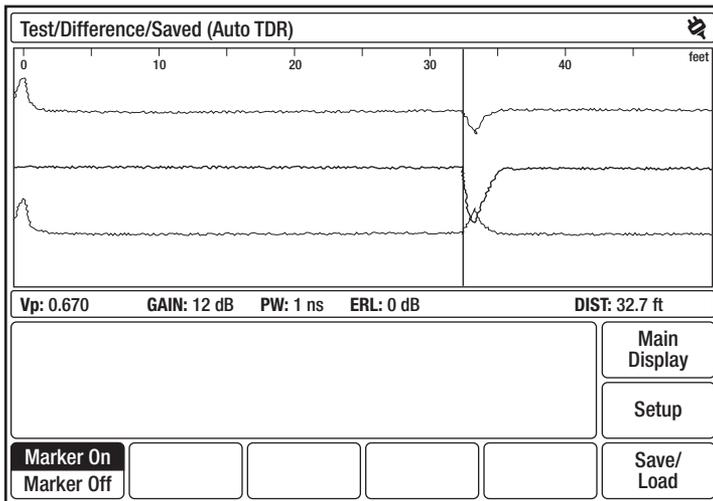

Figure 4-12: Test/Difference/Saved (Auto TDR)
5. Press **Return to Test** to display the test, saved, and difference waveforms (Figure 4-12).